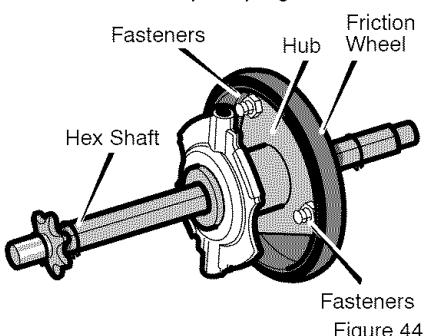

Figure 44
11. Remove the three **fasteners** that hold the **friction wheel** to the **hub** (see Figure 44).